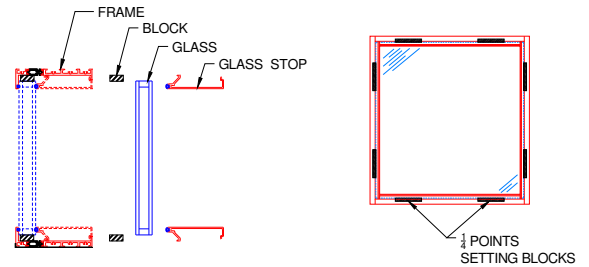

Figure 16:
2. Insert setting blocks at 1/4 points along the head, sill, and jamb (Figure 16).
3. Insert the setting blocks into the frame at the 1/4 points (Figure 16).